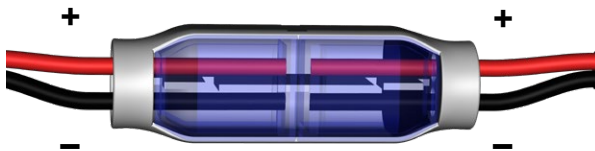

Figure 12b. Conductors must be fully inserted into the CoolSplice connector, and polarity must match
- Attach the support cables and wiring using the same procedure as before. Make sure the positive and negative conductors align with the ones on the opposite side (Figure 12b). *Polarity must match!*